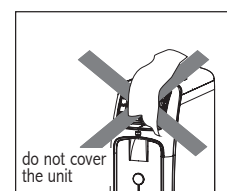

Fig. 13.
- Do not obstruct the air intake and outlet (fig. 13). Leave the grilles free;